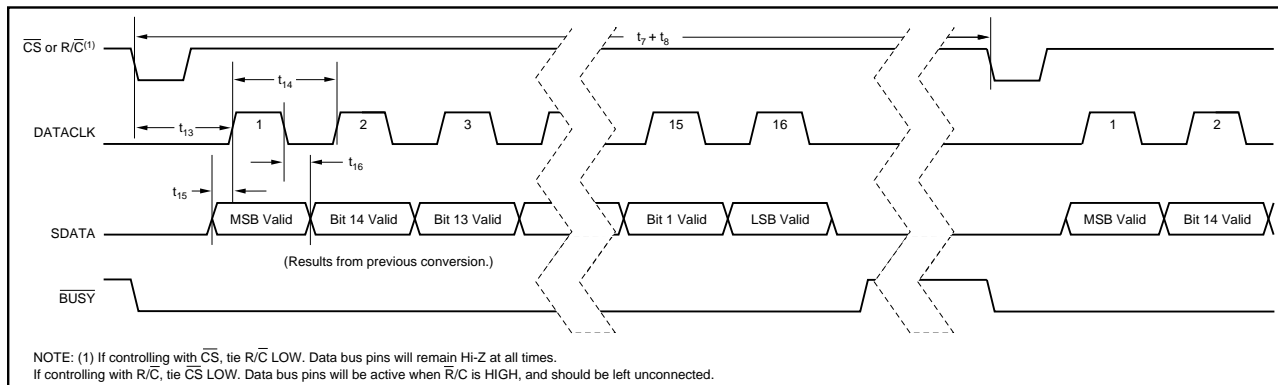

FIGURE 4. Serial Data Timing Using Internal Data Clock (TAG tied LOW).
NOTE: (1) See Figures 4, 5, and 6 for constraints on data valid from conversion "n-1".
To use the internal data clock, tie  $\text{EXT}/\overline{\text{INT}}$  (pin 8) LOW. The combination of  $R/\overline{C}$  (pin 22) and  $\overline{CS}$  (pin 23) LOW will initiate conversion 'n' and activate the internal data clock (typically 900kHz clock rate). The ADS7807 will output 16 bits of valid data, MSB first, from conversion 'n-1' on SDATA (pin 19), synchronized to 16 clock pulses output on DATACLK (pin 18). The data will be valid on both the rising and falling edges of the internal data clock. The rising edge of  $\overline{BUSY}$  (pin 24) can be used to latch the data. After the 16th clock pulse, DATACLK will remain LOW until the next conversion is initiated, while SDATA will go to whatever logic level was input on TAG (pin 20) during the first clock pulse. Refer to Table VI and Figure 4.